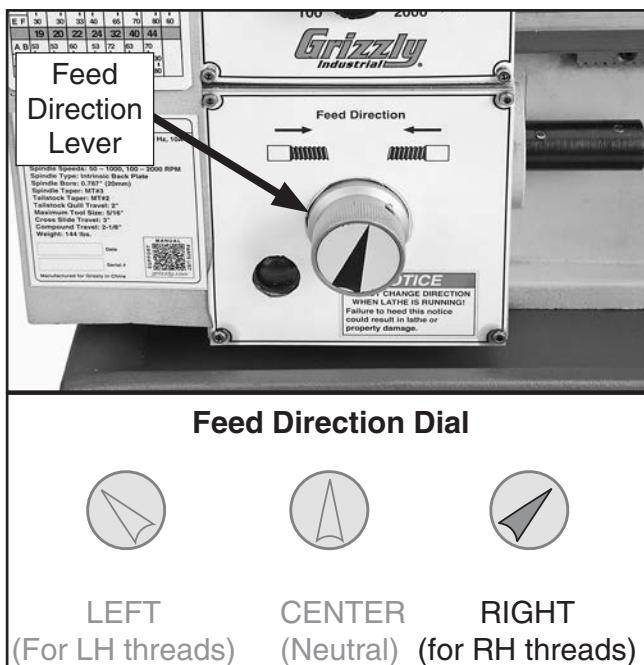

Figure 95. Feed direction dial setting.
3. Move the feed direction dial to the right (see **Figure 95**). The lathe is now set up to cut 20 TPI threads.